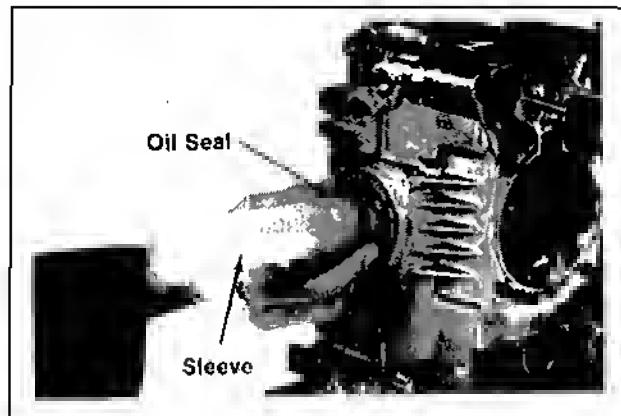

Figure 11-23. Installing Oil Seal Using Sleeve.
1. Slide the appropriate seal sleeve (refer to Section 2, "Special Tools") over flywheel end of crankshaft. Generously lubricate lips of front oil seal with light grease. Slide oil seal over sleeve. Refer to Figure 11-23.
5. Slide the appropriate seal sleeve over PTO end of crankshaft. Generously lubricate the lips of rear oil seal with light grease. Slide the oil seal over sleeve. Refer to Figure 11-23.